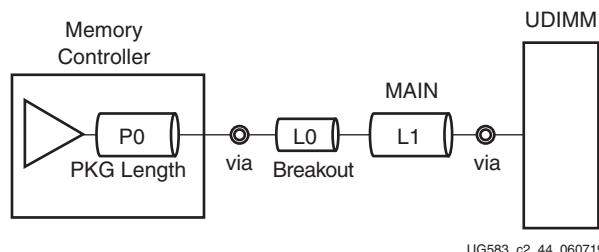
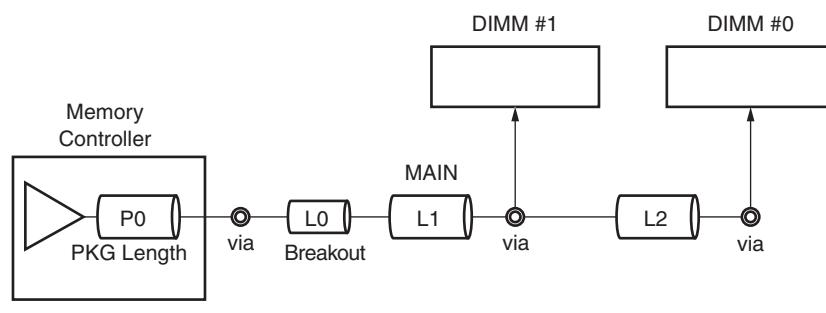

Figure 2-33: CTRL Point-to-Point Routing for DDR3/DDR4 DIMM Topology
Figure 2-34: CMD/ADDR Fly-by Routing for DDR3/DDR4 DIMM Topology
**IMPORTANT:** *Figure 2-34, Figure 2-36, and Figure 2-37 show configurations with multiple DIMMs. To reduce the effect of SI reflections, always place DIMM #0 on the furthest connector from the FPGA. DIMM #1, if present, should be placed on the connector nearest to the FPGA.*
*Figure 2-34, Figure 2-36, and Figure 2-37 show configurations with multiple DIMMs. To reduce the effect of SI reflections, always place DIMM #0 on the furthest connector from the FPGA. DIMM #1, if present, should be placed on the connector nearest to the FPGA.*
Figure 2-33, Figure 2-34, Table 2-28, and Table 2-30 define the routing topologies and routing guidelines for DDR3/DDR4 DIMM address, command, and control signals. Place four 0402 1.0  $\mu\text{F}$  capacitors in the CMD/CTRL pin area of the DIMM connector. All capacitors should connect from  $V_{CCO}$  to GND.